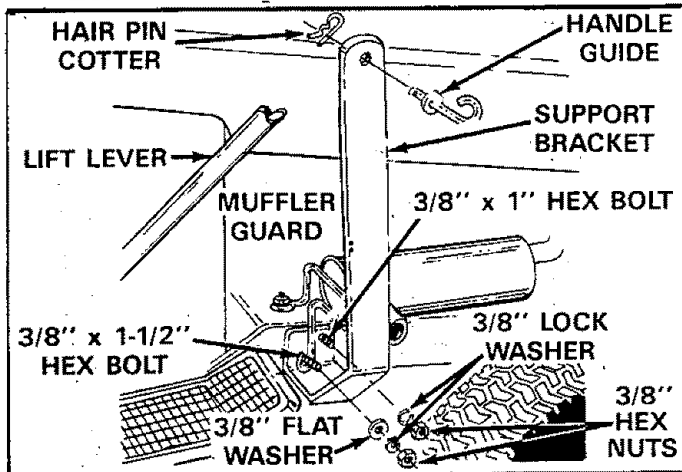

FIGURE 20
14. Assemble support bracket onto right hand side of tractor (between muffler guard and tractor frame if so equipped) using one 3/8" x 1" and one 3/8" x 1-1/2" hex bolt inside and secure with one flat washer, two 3/8" lock washers, and two 3/8" hex nuts on outside. See figure 20.
15. Assemble handle guide (with loop outside) at top of support bracket and secure with one hairpin cotter inside. See figures 20 and 21.